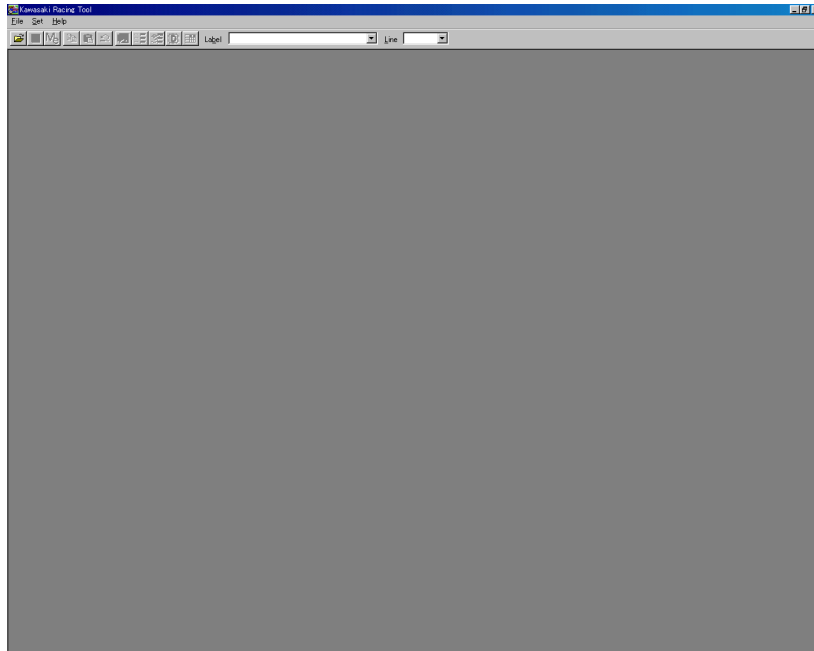

Fig. 12: Initial Screen
- (1) Double-click the shortcut icon on the Desktop screen or click the “KRT-600” in Program Menu on Start Menu. The initial screen shown in Fig. 12 appears.